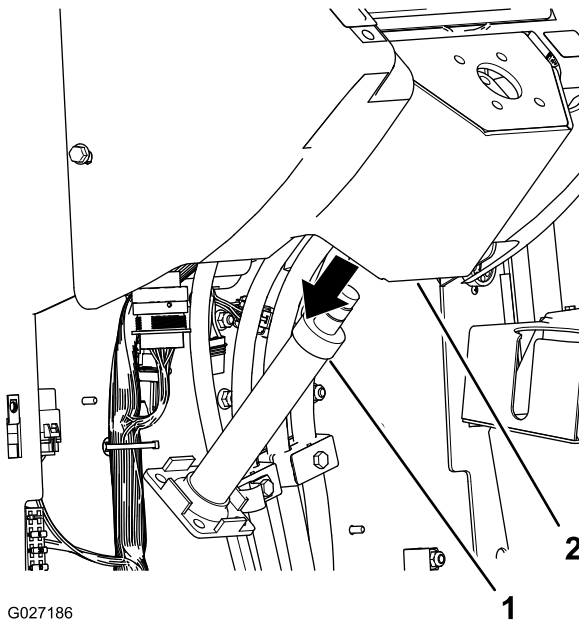

Figure 6
6. Move the fixed-steering column down and out from under the steering support and remove the fixed-steering column from the machine (Figure 6).